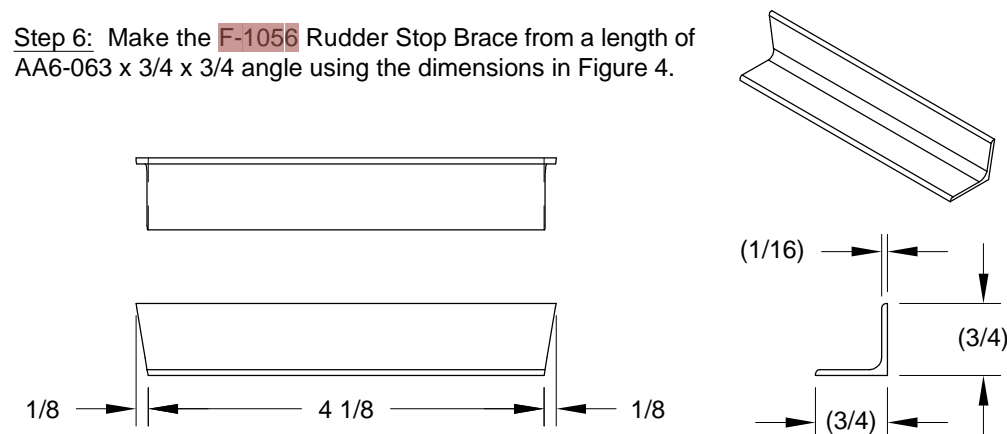

FIGURE 4: F-1056 RUDDER STOP BRACE
Step 6: Make the **F-1056** Rudder Stop Brace from a length of AA6-063 x 3/4 x 3/4 angle using the dimensions in Figure 4.